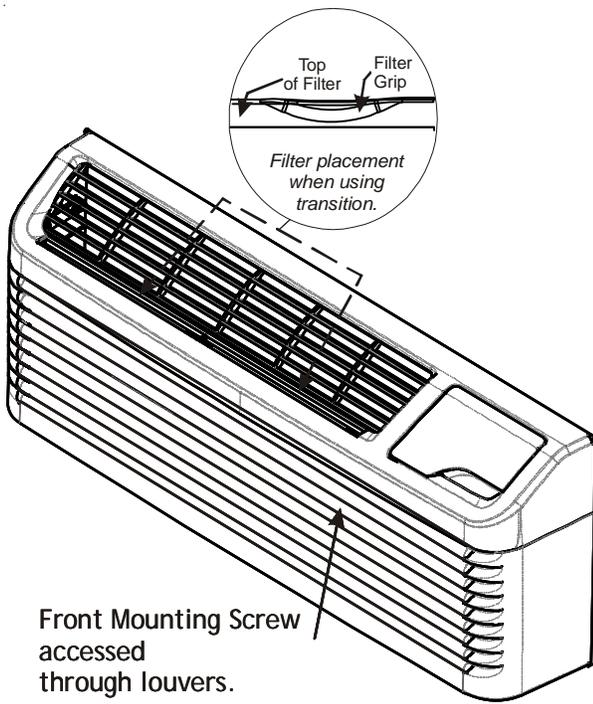

Figure 1
1. If the cabinet front is secured with a screw, remove the screw. See Figure 1.
NOTE: To facilitate filter removal after transition is installed, reverse the filters in front so that the filter grip is to the outside, as seen in Figure 1.